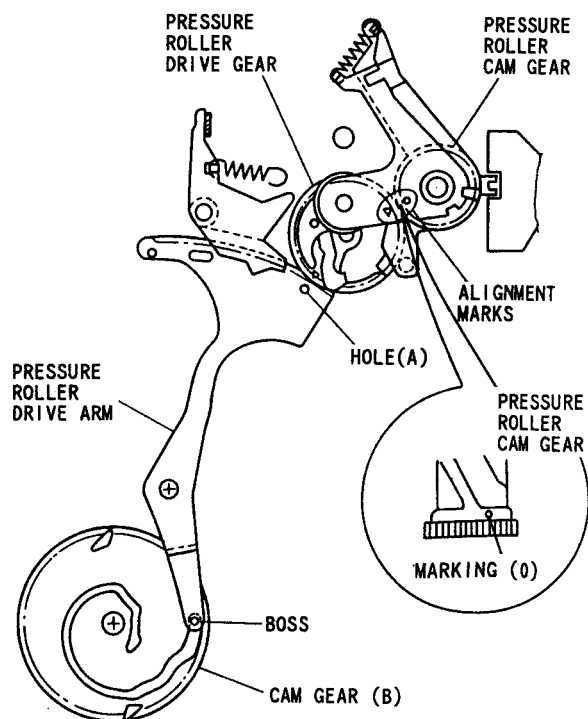

Fig. 6-15
- 3) Align mark (O) on the pressure roller cam gear and mark (Δ) on the pressure roller drive gear. (See Fig. 6-15)
- 1) Check that the boss of the pressure roller drive arm is securely inserted into the groove in cam gear (B). (See Fig. 6-15)
- 2) Align hole (A) in the pressure roller drive arm and the hole in the chassis. (See Fig. 6-15)